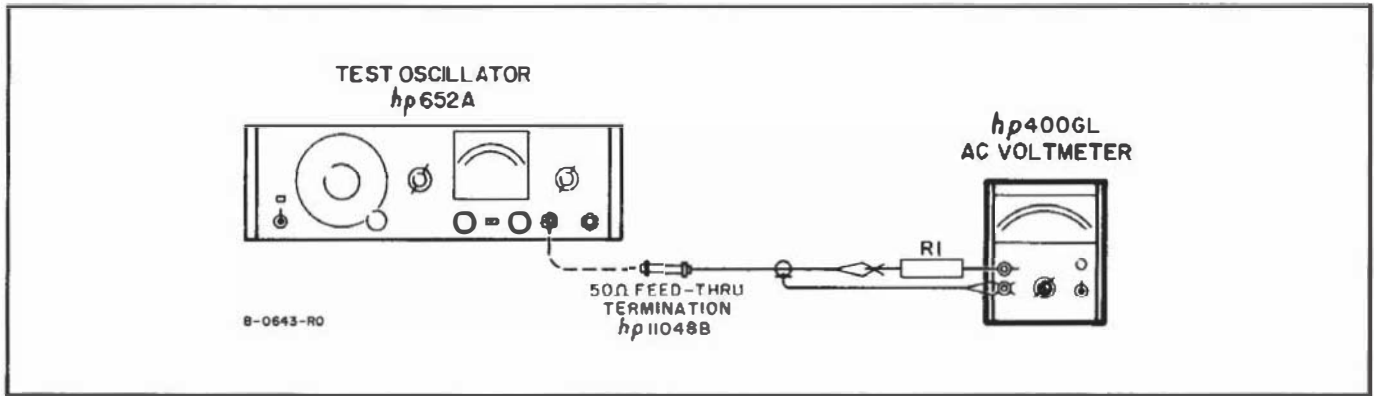

Figure 5-3. Input Impedance Check Setup
- d. Connect resistor R1 between test oscillator and 400GL as shown in Figure 5-3. (R1 = 200 KΩ).
- a. Connect test oscillator and resistor R1 to 400GL as shown in Figure 5-3. (R1 = 100 KΩ). Connect resistor lead directly to GR connector.